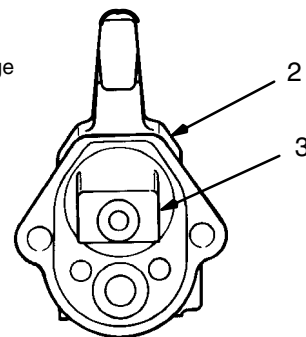

Fig 18
NOTE: See Fig 18 for proper alignment of the power cartridge in the gun handle (2).
5. Install the gasket (46) in the gun handle (2).